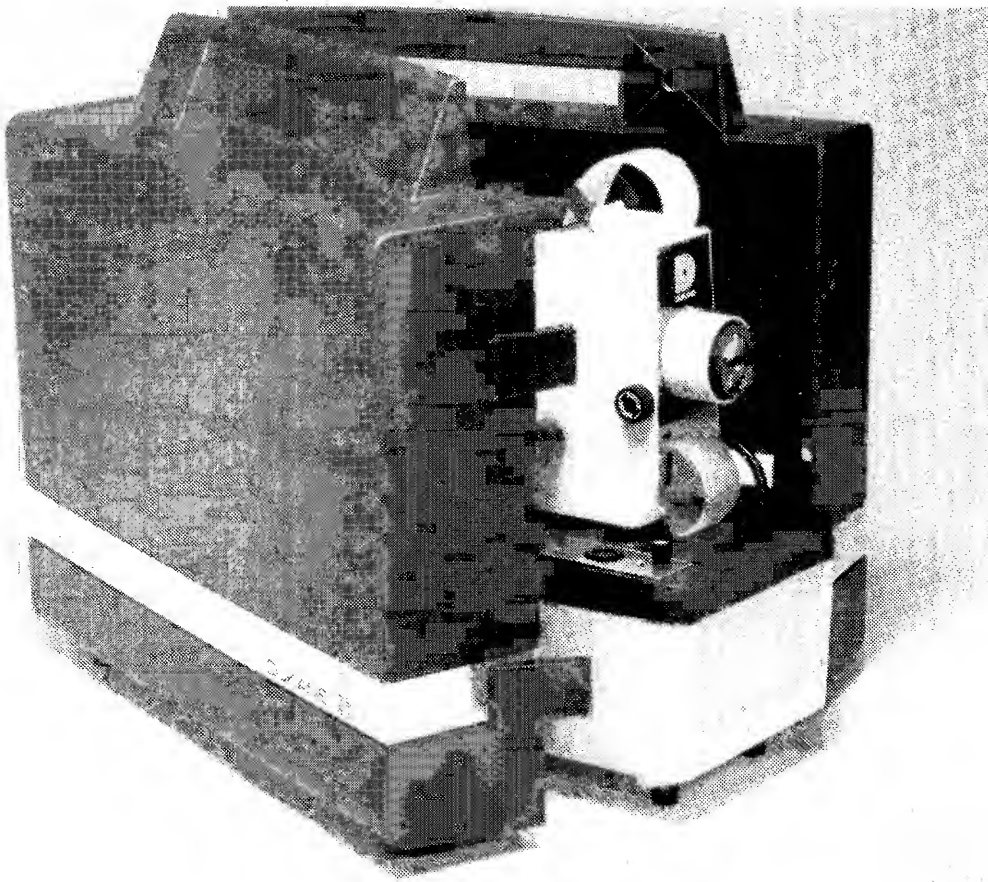

FIGURE 1
1. To remove the Micromatic II carrying case, place the unit on the projection table with the latch side of the case facing the screen. Pull out on the latches and push the sides of the case away from the projector (Figure 1).